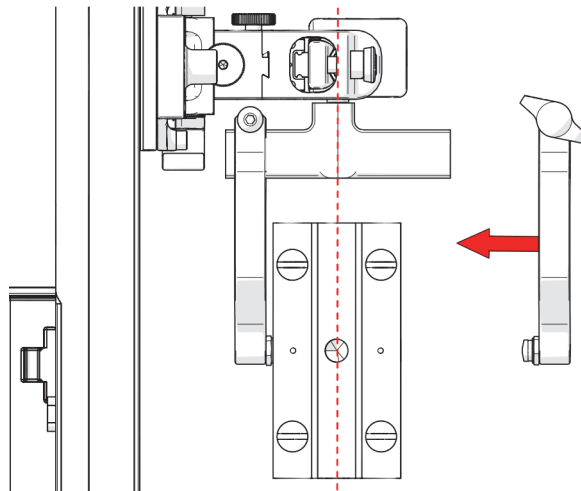

Figure 2-106 Remove outer arm
5. Align the middle of the wedge with the center of the yoke (see Figure 2-106 on page 116).